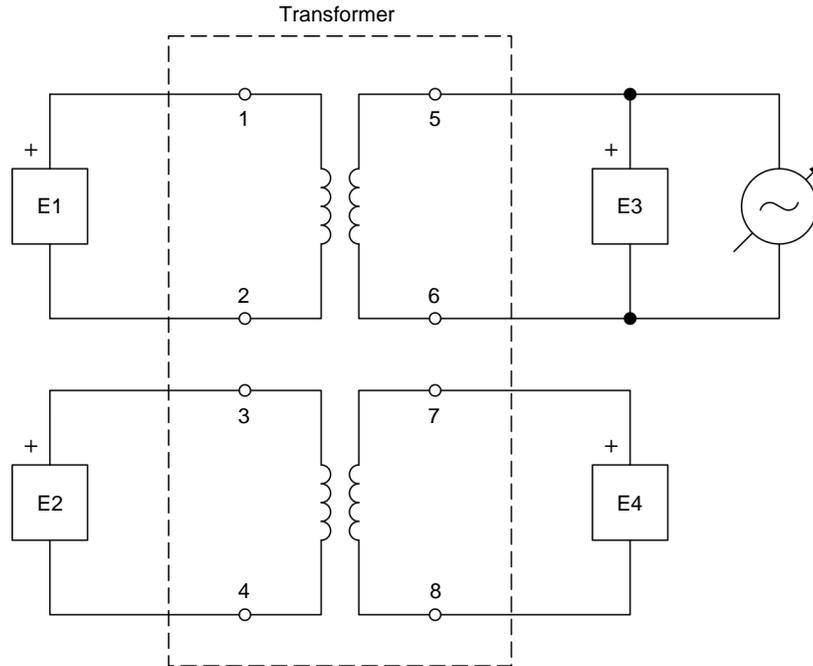

Figure 7. Circuit for measuring the voltage induced across each winding of the transformer when the ac power source is connected to winding 5-6.
17. Connect the equipment as shown in Figure 7.